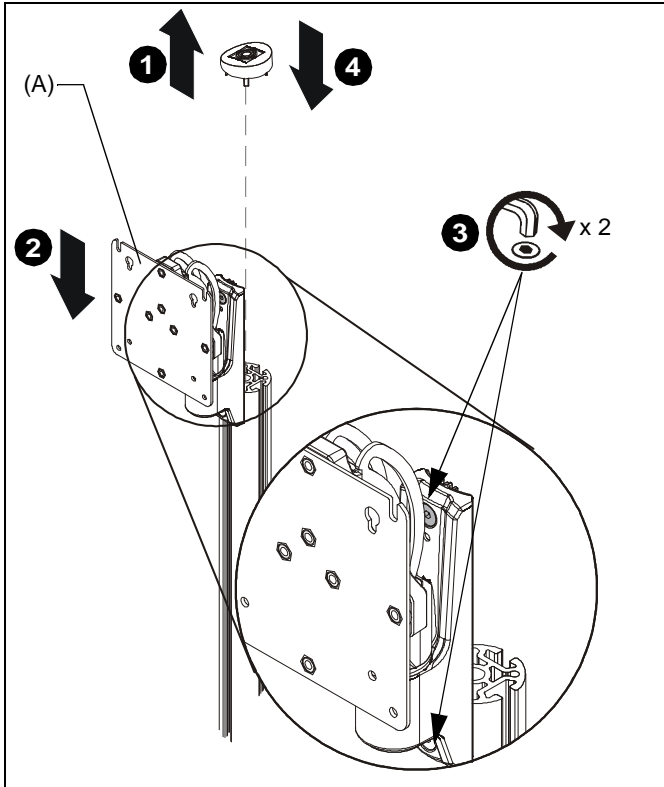

Figure 1
1. Remove cap from K1C or K2C column. (See Figure 1)
2. Slide KRA231 accessory (A) onto front of the column. (See Figure 1)
3. Tighten screws to secure accessory to column at desired mounting height. (See Figure 1)
4. Replace cap on top of column. (See Figure 1)